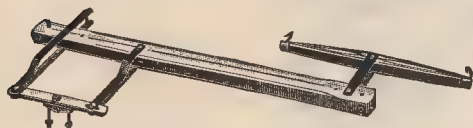

Fig. 203
The Three Horse Hitch, as shown in Fig. 203 . . .	“ “ 25 “ . . .
the use of three horses driven abreast. In Fig 203 we show the necessary parts to convert  $\frac{1}{2}$  double and single trees into a complete triple tree. This is sold as an attachment. Price,
**Three-Horse Hitch, Fig. 203.** In the operation of the "IRON AGE" Diggers with Elevator attachment throughout the country, the past season, we have observed that very few of them have been operated with more than two horses. However, under adverse conditions and for continuous digging we would recommend